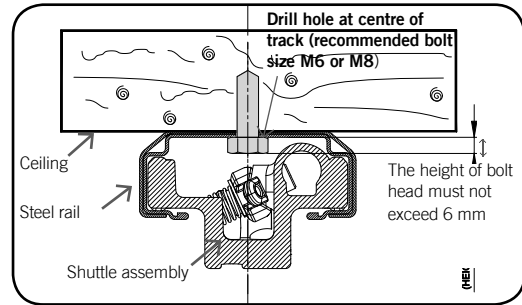

Fig. 18
- Rest the opener on the top edge of the door with end of the C-Rail against the wall (Fig. 18).
The opener can be fastened to the roof by driving a bolt through the C-Rail into a structural timber support. The bolt head's height must not exceed 6mm (**Fig. 18**).